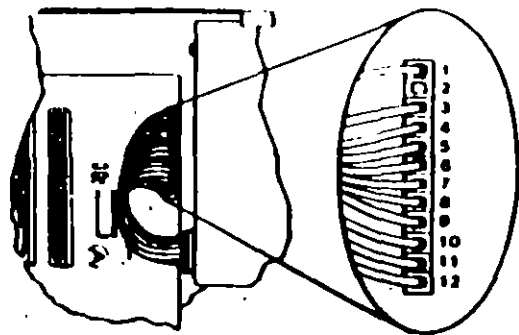

Figure 4. System Board Power Connectors
- Check for a voltage of 2.4 to 5.2 Vdc between pins 1 and 5 (ground) at the system board power connector (Figure 4 on page 0020-8).